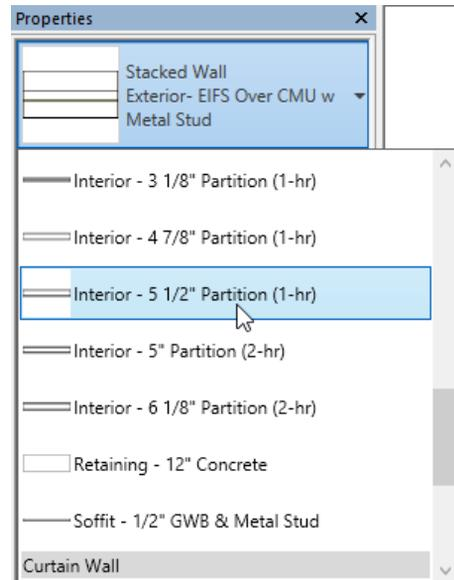

*Figure 3-79 Entering horizontal dimension in the edit box*
8. Click on the horizontal temporary dimension and enter **60'(18288 mm)** for the horizontal wall, as shown in Figure 3-79. Press ENTER.